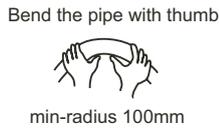

Fig.7-5
- Bend the tubing in proper way. Do not harm to them. (Refer to Fig.7-5)